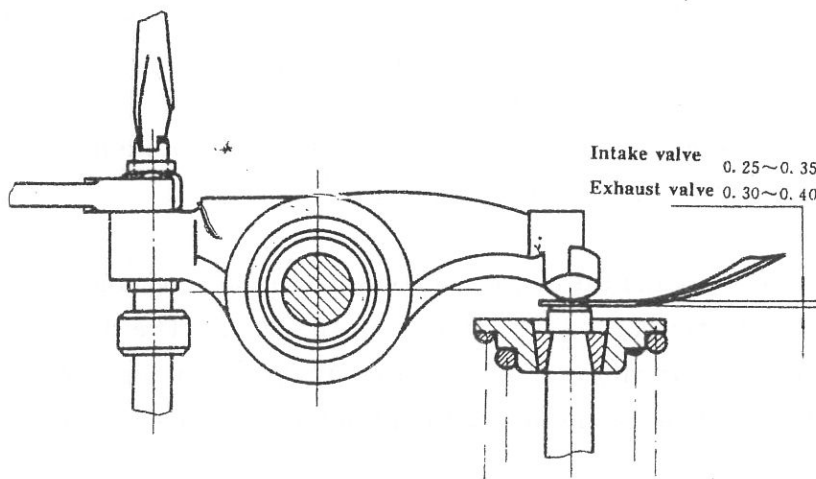

Fig. 3—1
d. Insert feeler gauge between the rocker arm head of intake and exhaust valve and valve stem to measure the clearance. If the clearance needs to be adjusted, loosen the lock nut on the valve clearance adjusting screw, then use a screw driver to adjust the screw until the feeler gauge inserted between the rocker arm head and the valve stem is felt a little snug but still free to move in the gap. And then tighten the lock nut (Fig. 3—1).